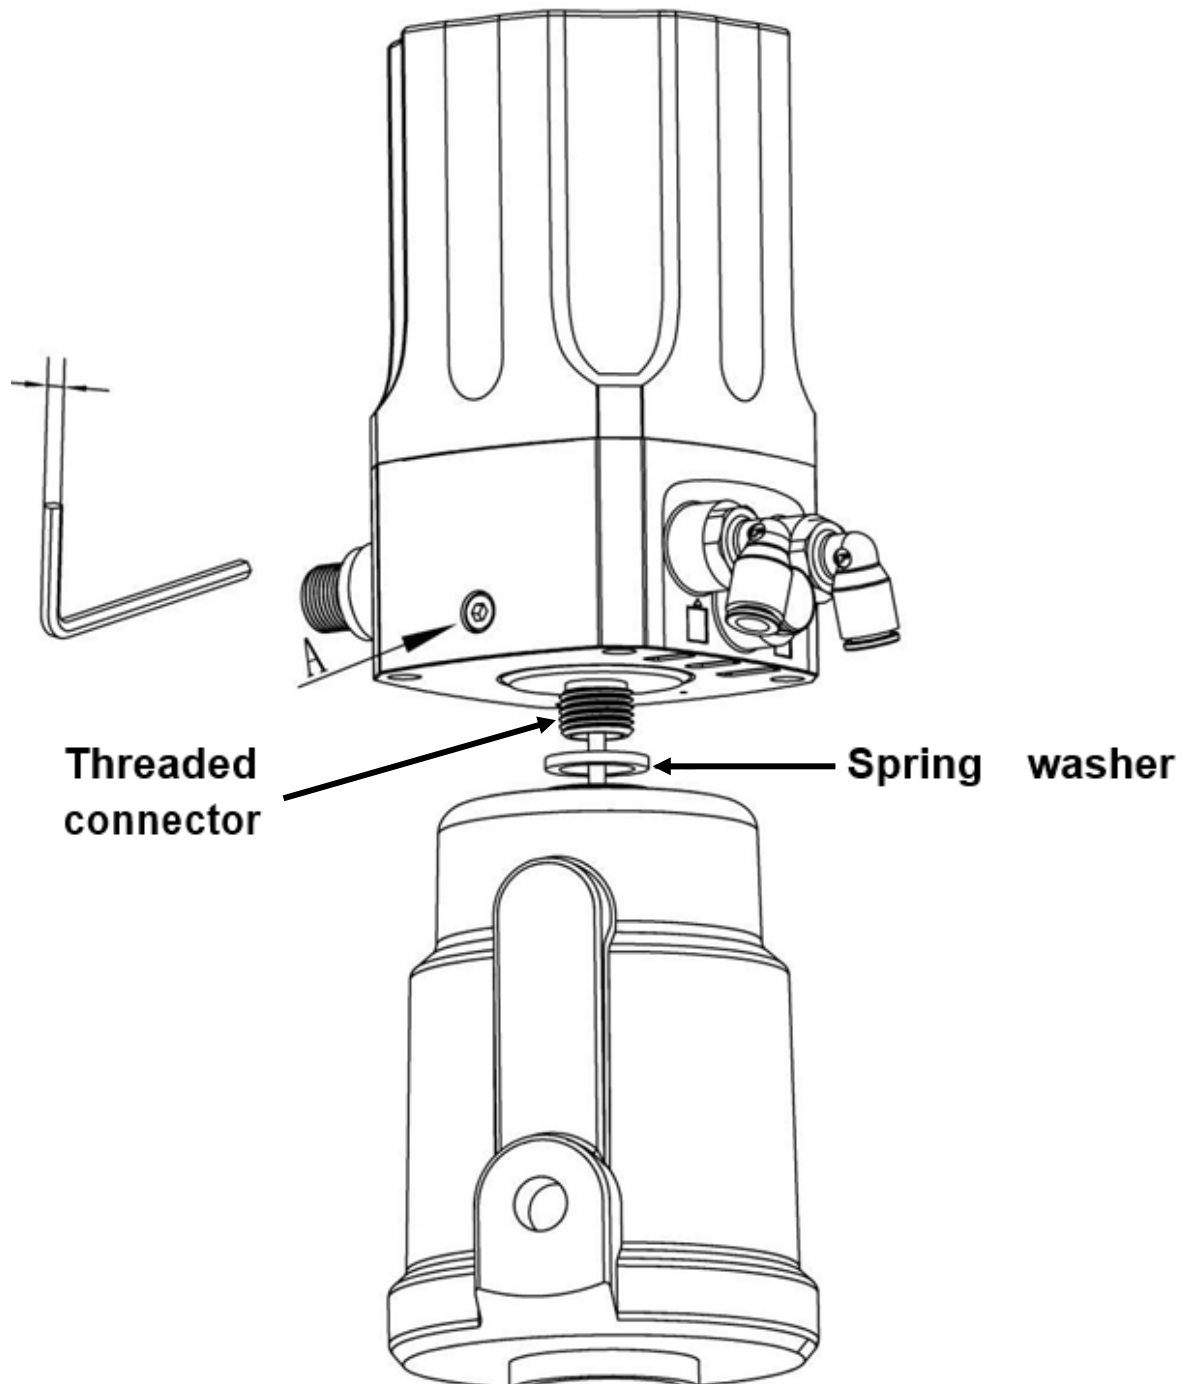
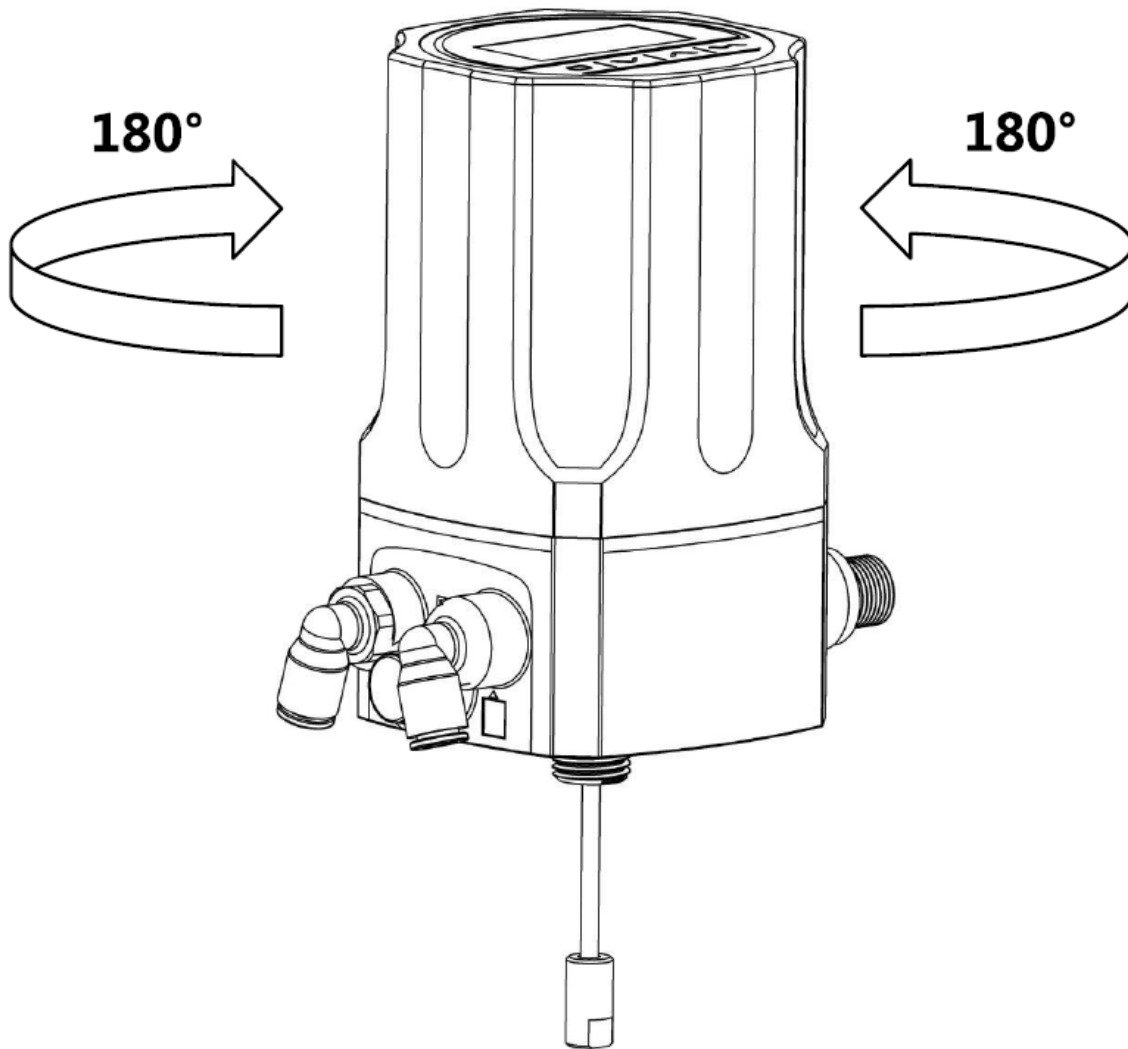

Figure 32. Displacement sensor adjustment and measurement
Figure 33. Positioner Rotation
11. Screw the replacement positioner clockwise into the threaded connection of the actuator housing and tighten as shown in Figure 32.
12. After connecting the positioner to the valve actuator, the angle between positioner and valve can be adjusted. If you need to adjust the angle of the operation interface of the positioner, loosen the hexagon socket screw at position A as shown in Figure 32, you can rotate the main housing to the required angle in the range of 180° clockwise or counterclockwise shown in Figure 33, and then tighten the screw.